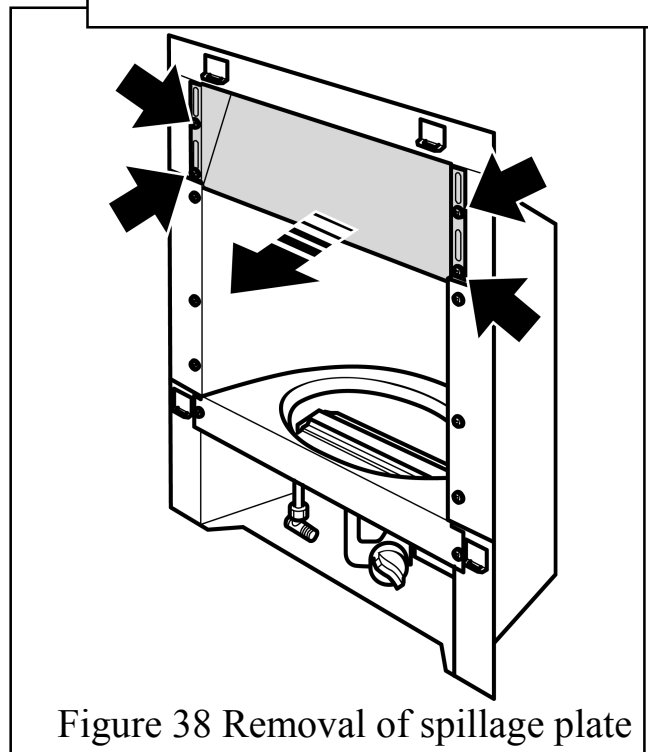

Figure 38 Removal of spillage plate
3. Detach the spillage plate from the hotbox by removing the four screws (See figure 38). Place the spillage plate in a safe place away from the work area.